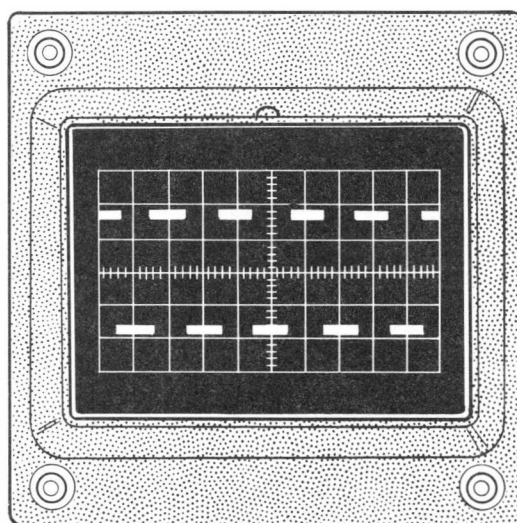
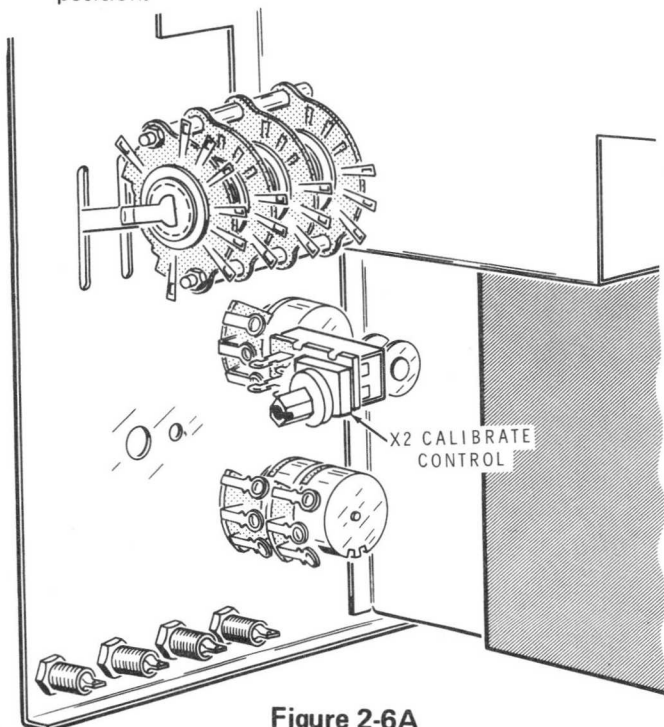

Figure 2-6B
Figure 2-6A
- () Refer to Figure 2-6A and adjust the X2 Calibrate control until 5 complete cycles equal 10 cm as shown in Figure 2-6B.